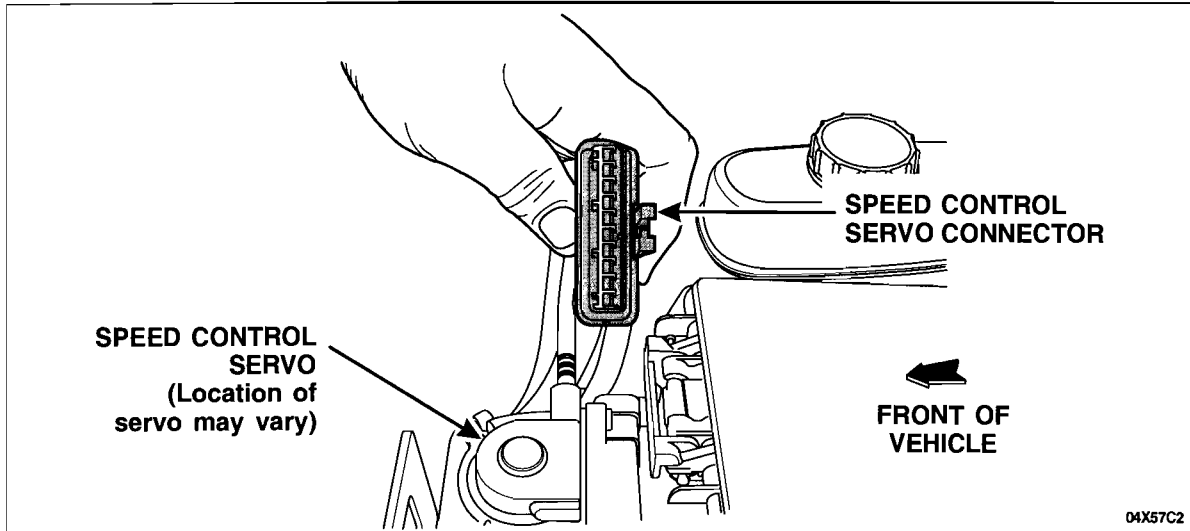

FIGURE 5
6. Disconnect the speed control servo and inspect the vehicle harness connector for heat damage. See Figure 5.